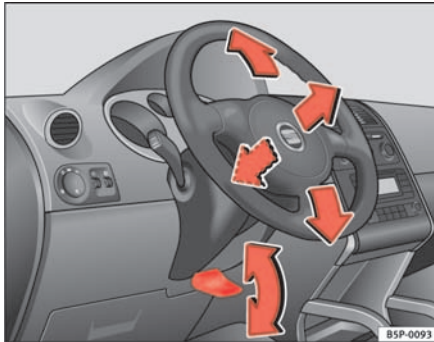

Fig. 89 Adjusting the steering wheel position
- Push the lever under the steering column ⇒ fig. 89 down ⇒ ⚠.